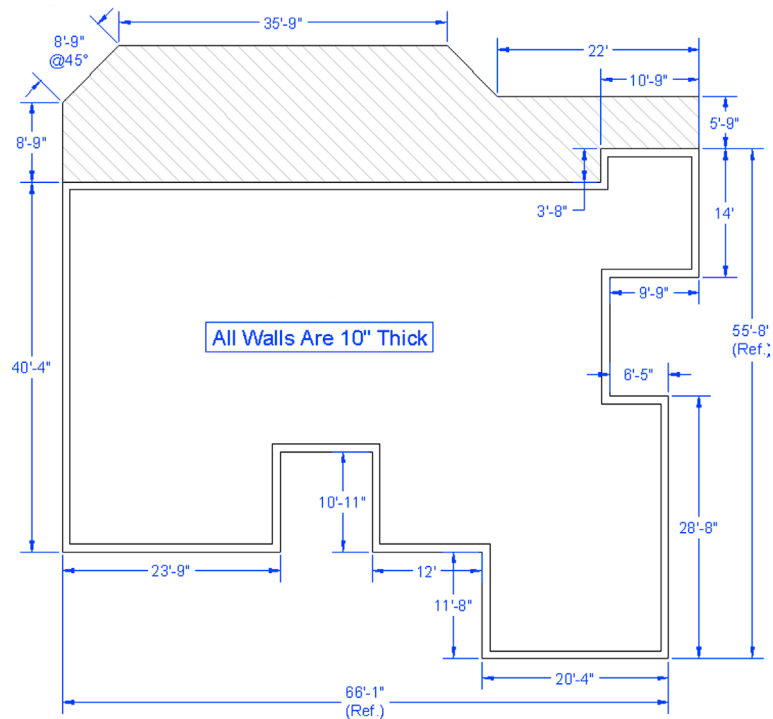

FIGURE 11.39 Level 2 project—overall layout.
Step 3. Draw the floor plan shown in Fig. 11.39. The dimensions are not just for your reference anymore; you also need to draw them in. They serve as checks on your design. Use the proper layers and consistent colors. When done and you are sure everything is correct, freeze the dimensions. It should take you about 30 minutes or less to set up and complete this design.